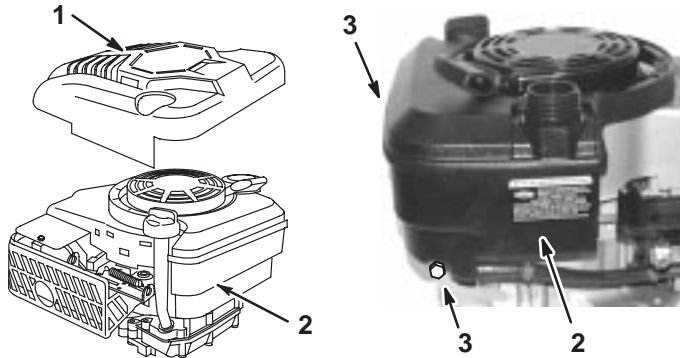

Fig. 147 – Removing Static Guard and Fuel Tank
1. Remove air filter cover, static guard, and fuel tank, Fig. 147.